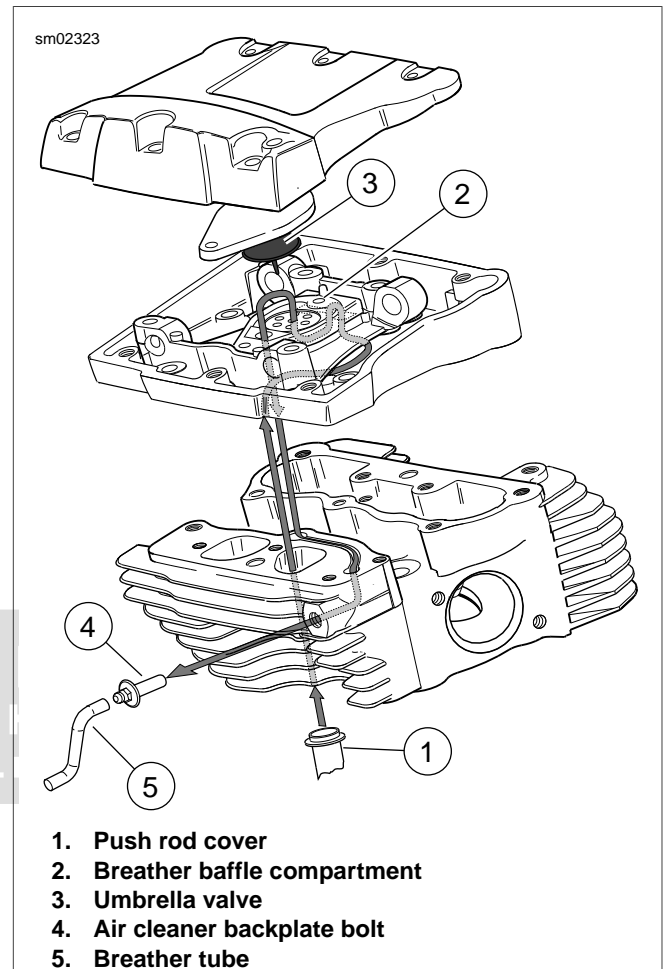

Figure 3-7. Breather Air Flow
See Figure 3-7. As each piston pushes downward on its power and intake stroke, displaced air in the flywheel compartment is vented through the crankshaft roller bearing into the cam compartment and then up the push rod covers (1) into the rocker housing.